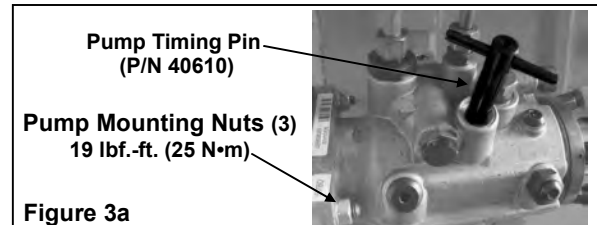
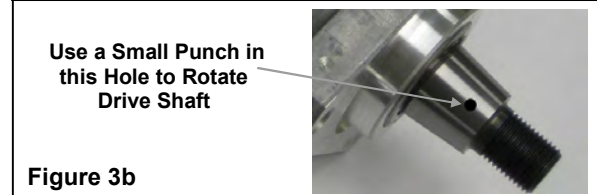

Figure 3a
Figure 3b
3. Insert the Pump Timing Pin (P/N 40610) into the hole (Figure 3a) and rotate the pump's drive shaft until the pin indexes in the internal drive shaft slot. Leave the pump timing pin in the pump until installation is complete. *NOTE: A small punch may be temporarily inserted into the small hole in the drive shaft taper to facilitate shaft rotation (Figure 3b).*